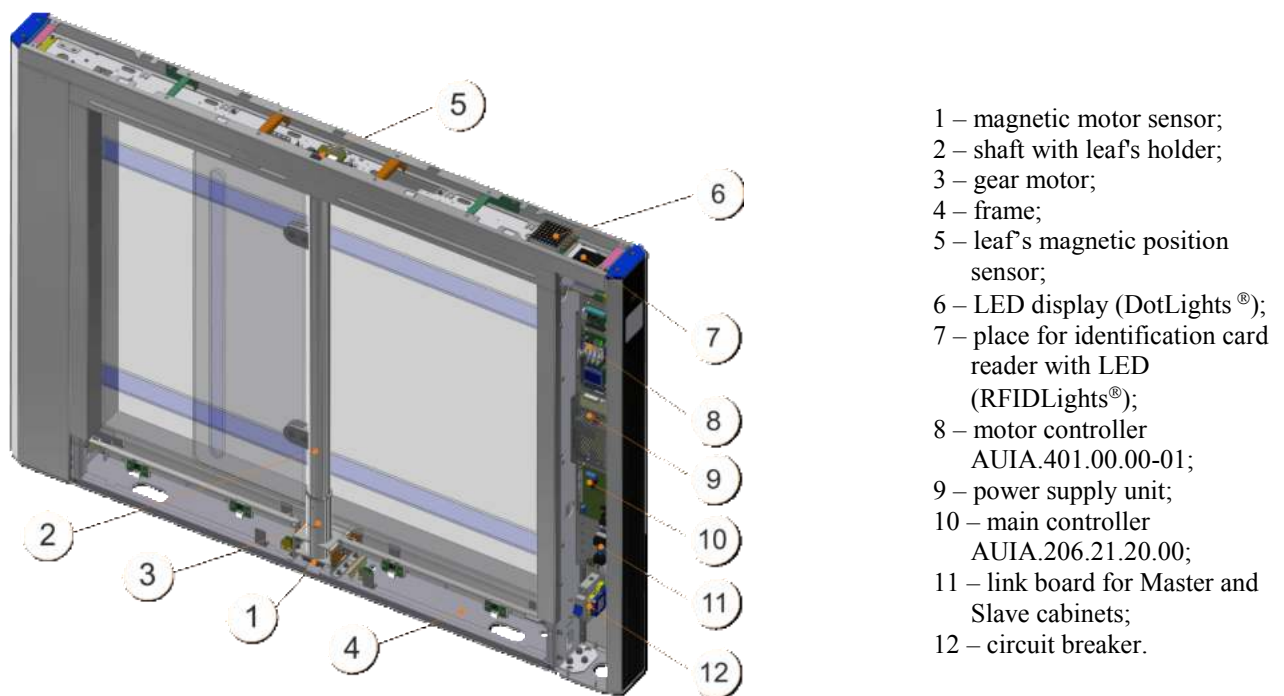

Fig. 5 – General appearance and design of the "Sweeper-BM-S-1" (cabinet Master) turnstile operating mechanism and control desk
Controllers AUIA.401.00.00-01 (8) control the turnstile motors (Fig.5) analyzing signals from motor shaft position sensors (1) and leaf position sensor (5), and provide motor overload protection. Controllers AUIA.206.21.00.00 (10) analyze infrared sensors, receive control commands from peripherals (control panel, ACS etc.), control LED displays and generate feedback signals for ACS.
The cabinet operating mechanism is shown in Figure 5.